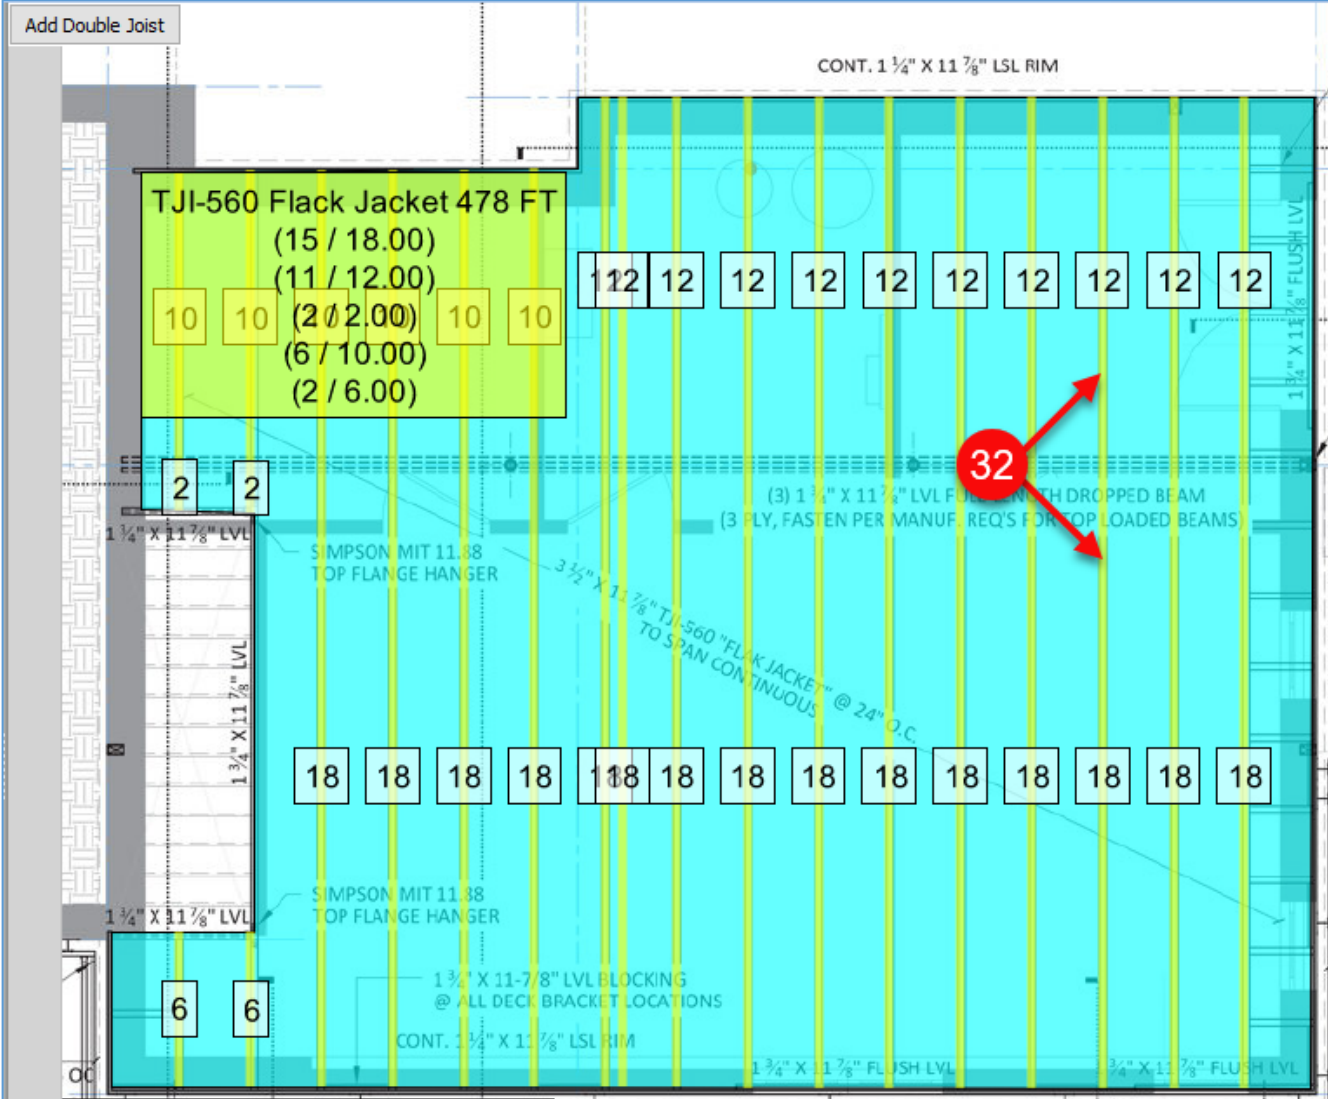

Figure 36-G
33. If you want to change the rounding properties or any other joist properties, double-click on the area takeoff (or right-click on the area takeoff and select **Properties** from the drop-down menu) (Fig. 36-H).